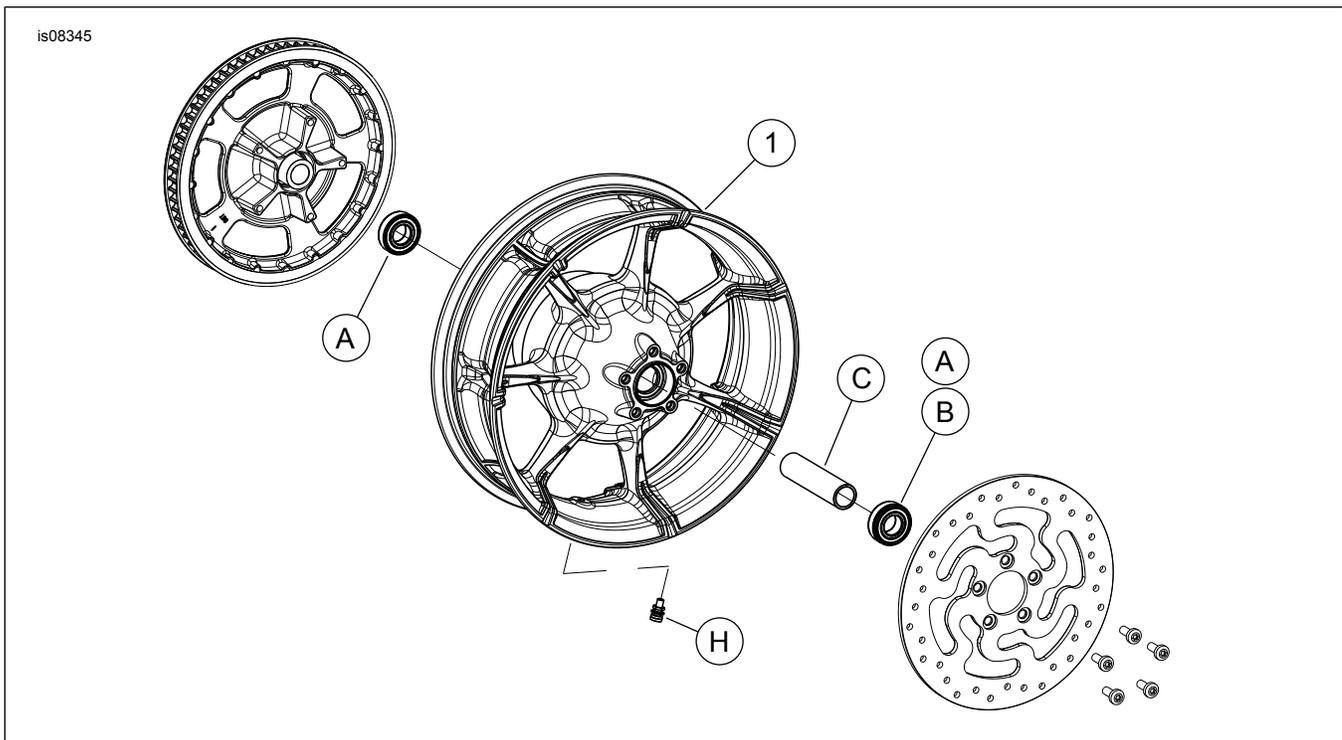

Figure 1. Service Parts: Rear Slicer Wheels
See Figure 1 and Service Parts Tables.
- See Figure 1. Install valve stem assembly (H) on wheel. Refer to the service manual.